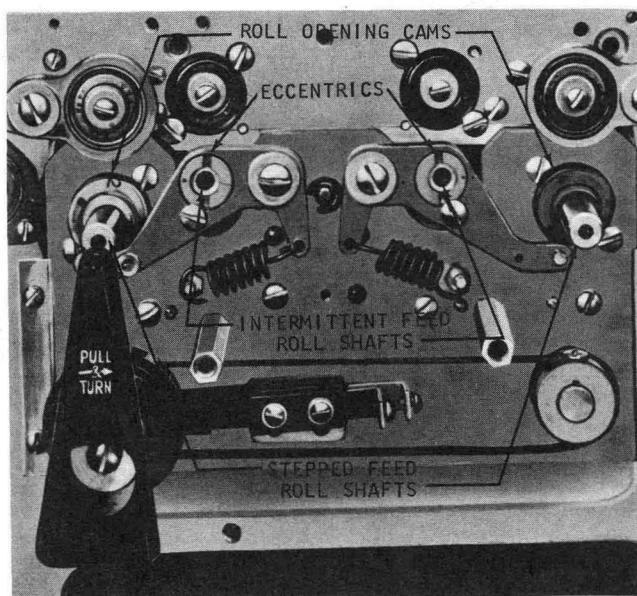

Figure 3-29. Roll Opening Device
- a. Loosen lock screw on eccentric (Figure 3-29).
- a. Loosen lock screw for eccentric (Figure 3-29).